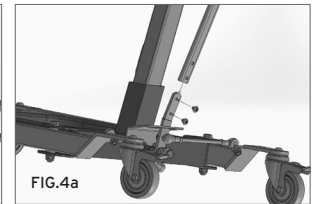

FIG.4a
- 6a. Fit the pedal for base legs opening and block it with the provided screw. (Fig.4a -for R1840 model)